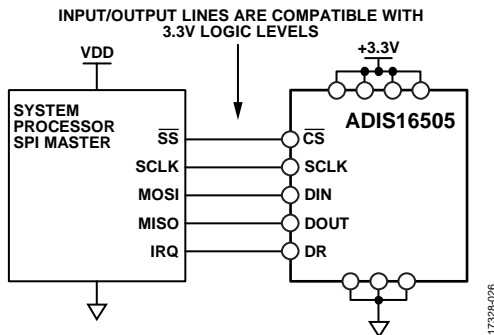

Figure 34. Electrical Connection Diagram
The SPI provides access to the user registers (see Table 9). Figure 34 shows the most common connections between the ADIS16505 and a SPI master device, which is often an embedded processor that has a SPI-compatible interface. In this example, the SPI master uses an interrupt service routine to collect data every time the data ready (DR) signal pulses.